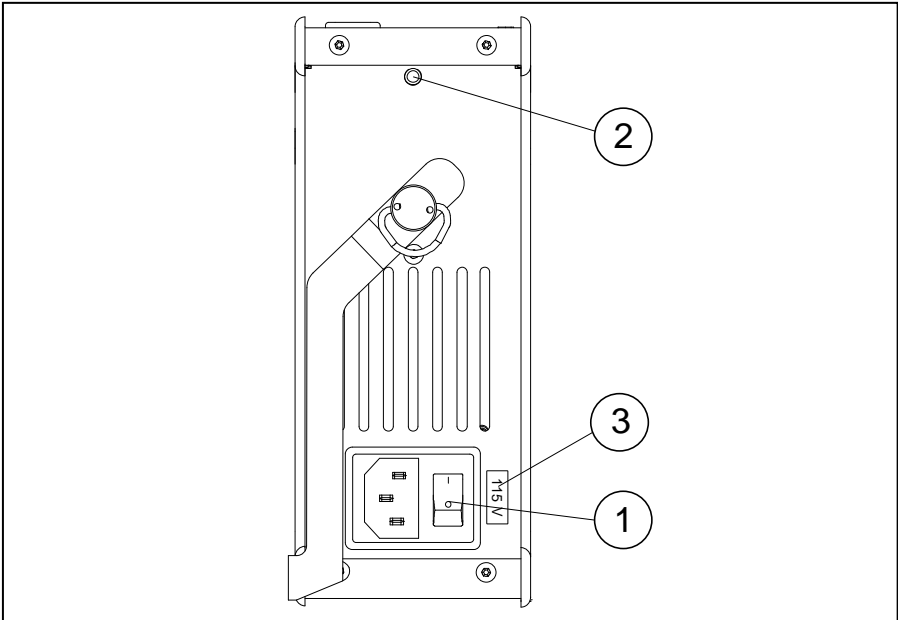

Fig. 5
Switch the calibrator on using the power control switch (Fig. 5, pos. 1).